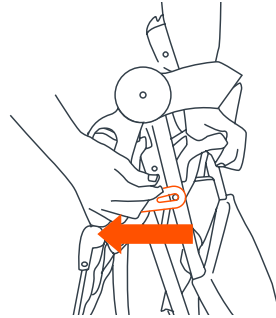

Fig. 19a
- 19) • Stand the stroller on the ground with all three wheels touching the ground. Release the folding latch, which is located on the right side (Fig. 19a).